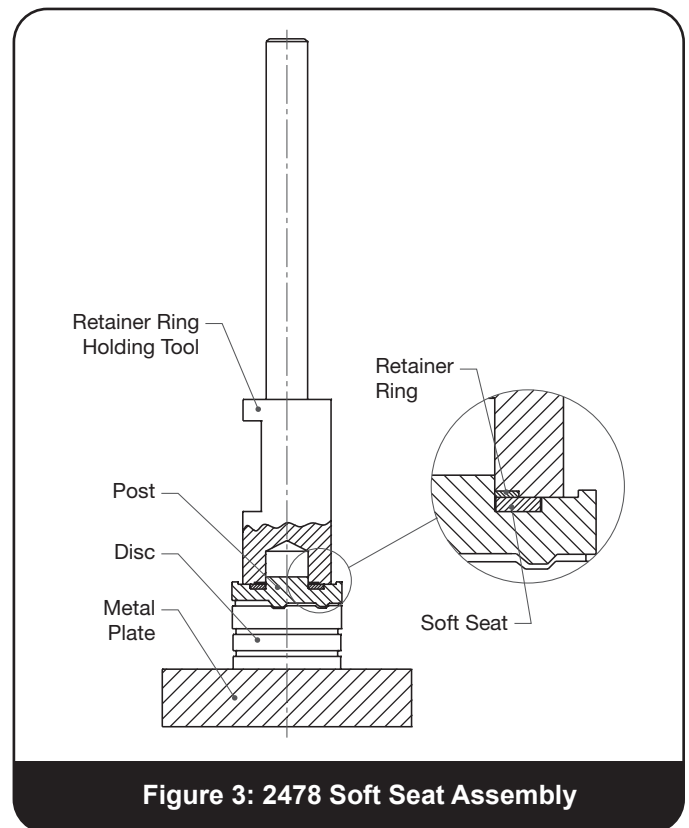

Figure 3: 2478 Soft Seat Assembly
- a. Clean disc and place it on a level metallic plate as shown in Figure 3. Disc surface having the spindle pocket will lie on the metal plate.
- b. Pick-up proper soft seat; clean this with lint free cloth. Inspect it for nicks, cuts, dents (defective soft seat should be rejected). Place soft seat onto the disc as shown in Figure 3.
- c. Pick-up proper retaining ring and tool assembly (see Table 1). Place retaining ring on the disc post (see Figure 3). Subsequently put the retaining ring tool assembly in a mechanical press (not shown in Figure 3). By applying slight force, position retaining ring over the disc post. Inspect the ring to ensure its proper positioning. Subsequently, press the ring hard enough to move it down to provide tight retaining of the soft seat. A properly assembled soft seat will be somewhat compressed by the retaining ring.